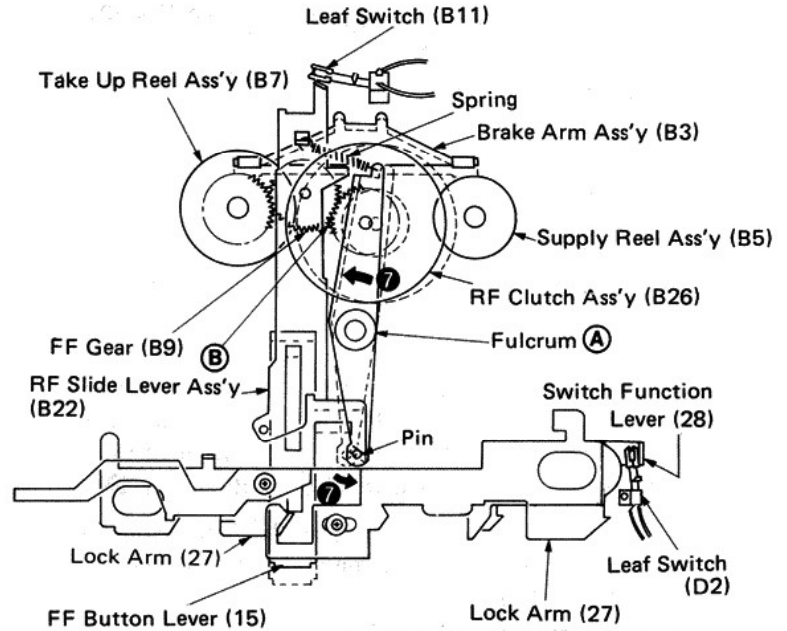

Fig. 20
- 1 When the FF button is pushed, the switch function lever (28) and the FF button lever (15) are locked by the lock arm (27).
- 2 The leaf switch (D2) (Motor ON-OFF Switch) is turned on by the switch function lever (28) and the motor (C8) begins to run. Simultaneously the RF clutch assembly (B26) begins to rotate.
- 3 As the FF button lever (15) is pushed forward, the pin of the RF clutch assembly (B26) is released from the grip of the FF lever and the RF clutch is rotated around the fulcrum (A) in direction ⑦ by the effect of the spring force. The RF clutch gear is then meshed with the FF gear (B9). Simultaneously the brake arm assembly (B3) uncouples from the take-up reel (D7) and the supply reel (B5). (Fig. 20)
- 4 Since the gear of the take-up reel assembly (B7) is coupled with the FF gear (B9) from the beginning, the take-up reel (B7) begins to rotate when it meshes with the gear of the RF clutch assembly (B26). In this step the mechanism assumes an FF state. (Fig. 20)